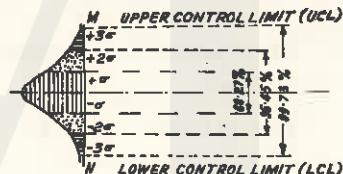

Fig. 8.8. Control limits.
After calculating the value of standard deviation, σ , the upper and lower control limits can be decided. As shown in Fig. 8.8, 1σ limits occupy 68.27% of the area of the normal curve and indicate that one is 68.27% confident that a random observation will fall in this area. Similarly 2σ and 3σ limits occupy 95.45% and 99.73% area of the normal curve and possess a confidence level of 95.45% and 99.73%. For plotting control charts (in statistical quality control) generally 3σ limits are selected and they are termed as *control limits*. They present a band (MN) within which the average dimensions of (sample) components are expected to fall. 2σ limits are sometimes called *warning control limits*.